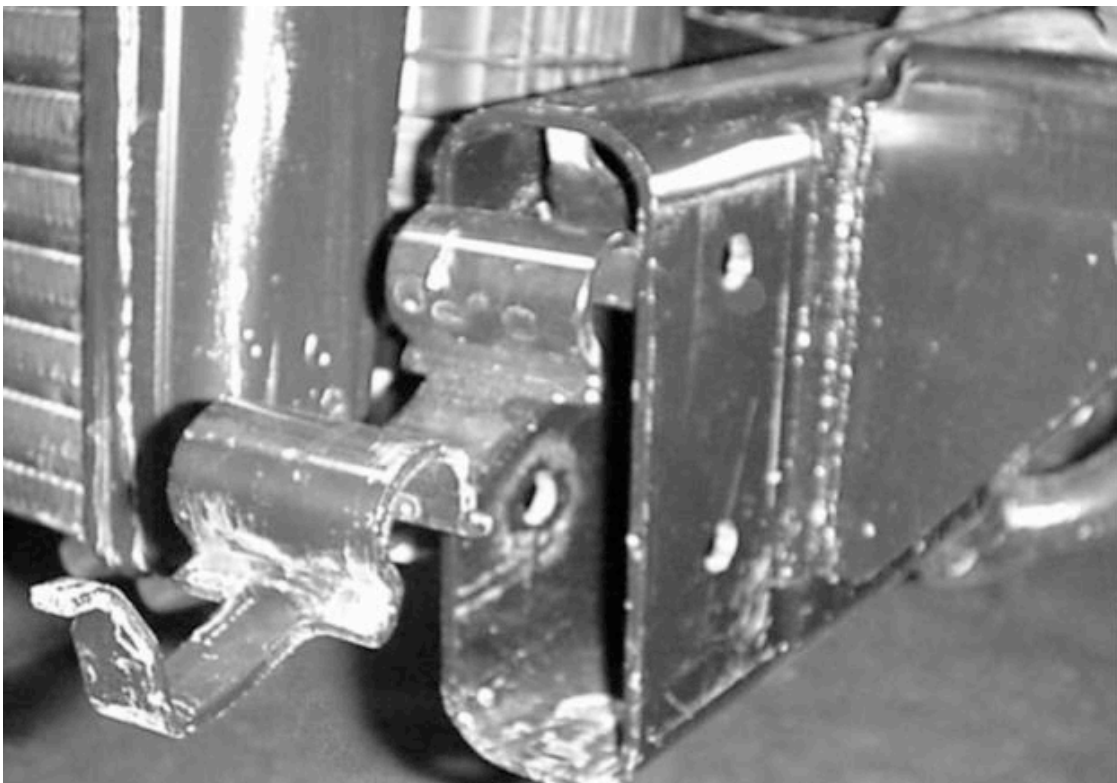

Figure 8 (FRAME ANTI-CRUSH PLATE)
- H. Remove the frame anti-crush plates by breaking the spot weld at bottom (if equipped) and prying plate upward (Ref. Figure 8).